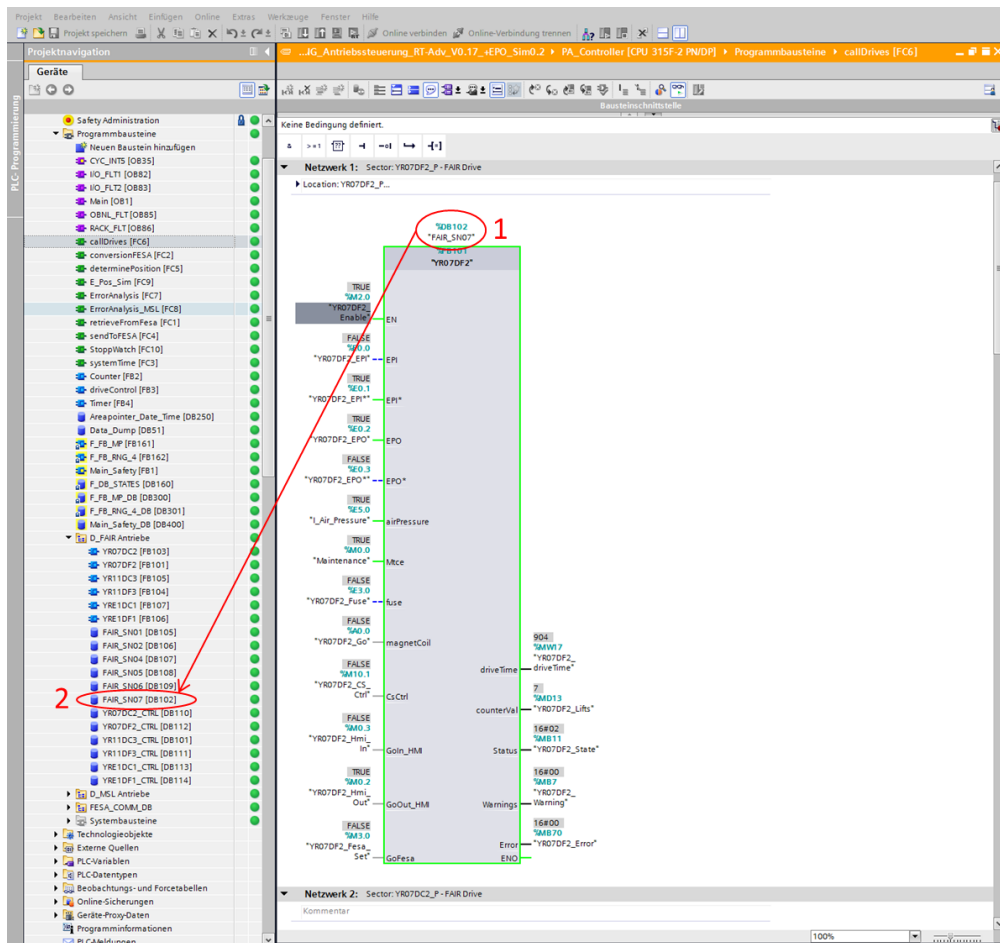

Figure 1: FB and DB that represent the drive at a specific location
In this example, you are going to change the drive that is installed at the location "YR07DF2" and displayed in Network 1. Here you have to look for the Function block (FB) with the nomenclature of the location. Once found, check the name of it's instance Data block (DB) that is representing the drive (see figure 1).